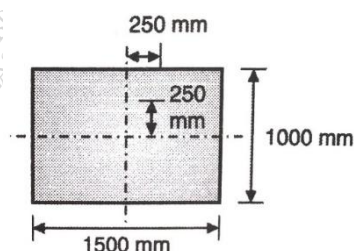

Figure 02
B) A rectangular pier is subjected to a compressive load of 450 kN as shown in figure 02. Find stress intensities on all the four corners of the pier.